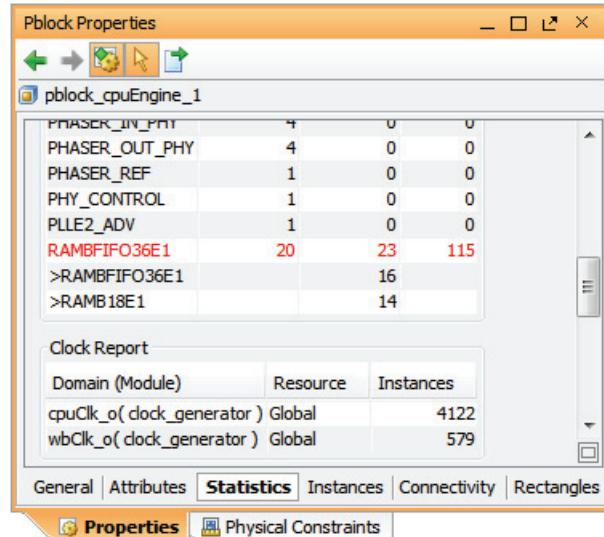

Figure 10-17: Pblock Properties View: Statistics Tab
2. Click the **Statistics** tab, shown in Figure 10-17, page 318.
- **% Util:** Displays the estimated utilization percentage for each logic type. The appropriate utilization can be met by resizing the Pblock. If utilization for logic objects is over 100%, the text appears in red, as shown in Figure 10-17.